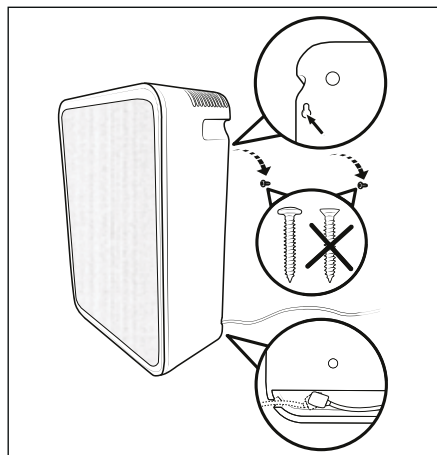

Fig. 4
- ◆ Screw a pan head screw into each of the two wall plugs. Leave the pan head screws protruding approx. 5 mm from the wall plugs so that you have enough space to hang the appliance (see Fig. 4).
- ◆ Insert the barrel connector of the power adapter ⑩ into the plug socket ⑤ on the appliance (see Fig. 4).
- ◆ Hang the appliance on the two pan head screws using the two hanging loops (see Fig. 4).
- ◆ Lift the appliance slightly away from the wall. Guide the cable of the power adapter ⑨ through the cable channel on the left or right side of the appliance (see Fig. 4).